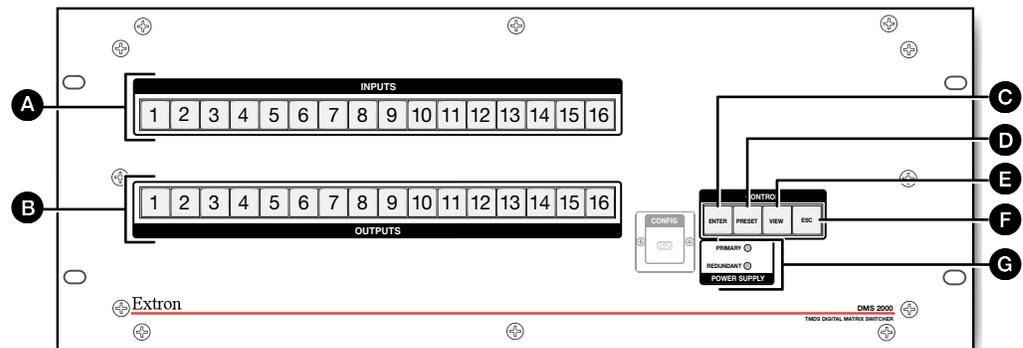
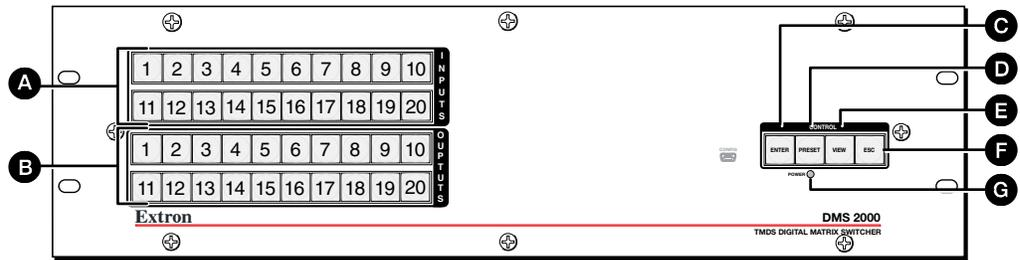
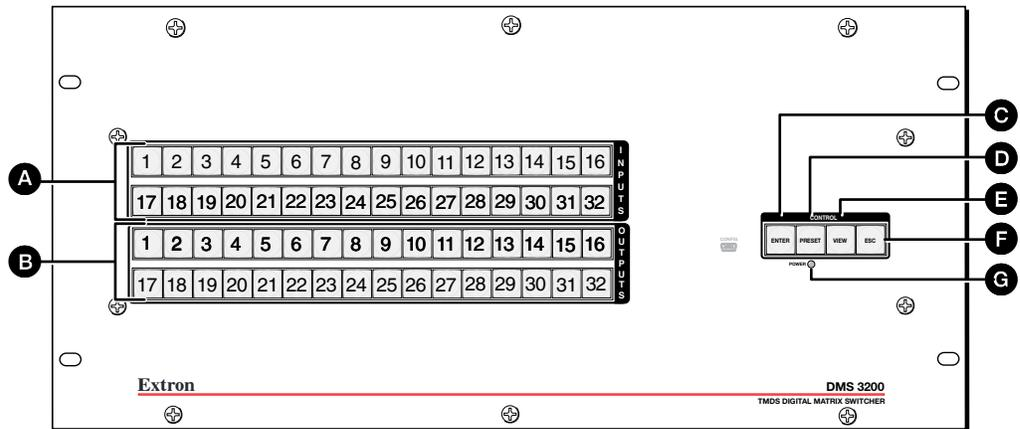
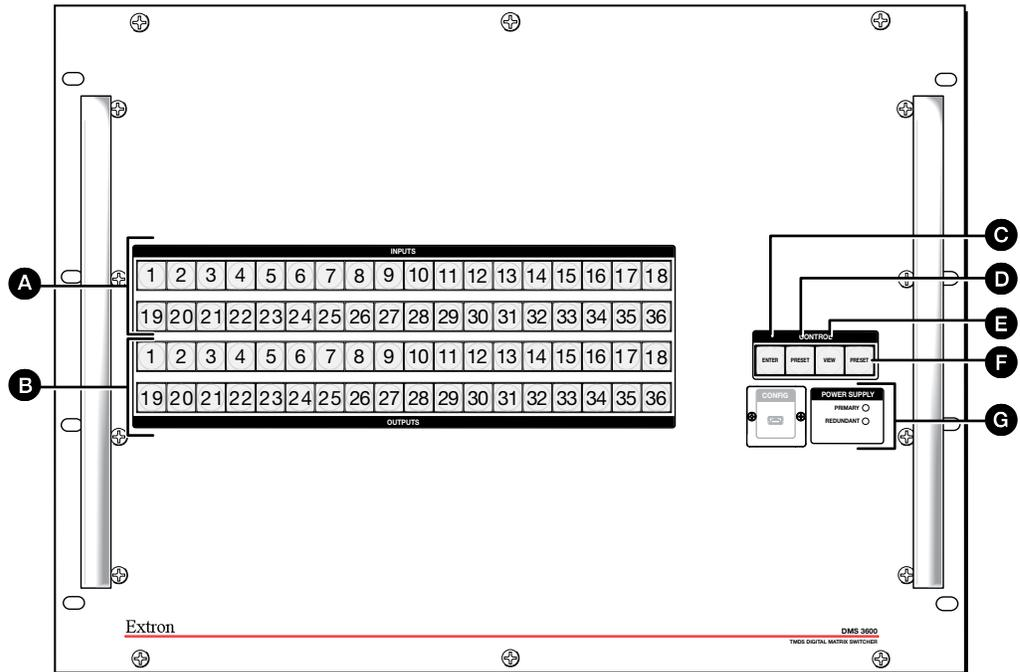

Figure 12. Front Panel, DMS 1600 Switcher
Figure 13. Front Panel, DMS 2000 Switcher
Figure 14. Front Panel, DMS 3200 Switcher
Figure 15. Front Panel, DMS 3600 Switcher
The front panel controls (see figure 12 and figure 13, figure 14, and figure 15 on the next page) are grouped into two sets. The input and output buttons are grouped on the left side of the control panel. The control buttons are grouped on the right side of the panel.
- A Input buttons** (see figure 12 on page 14 through figure 15 on page 15) — The input buttons have one primary function (□) and five secondary functions (•):
- C Enter button** (see figure 12 on page 14 through figure 15 on page 15) — The Enter button has three primary functions (☐) and three secondary functions (●):
E View button (see figure 12 on page 14 through figure 15 on page 15) — The View button has one primary function (□) and four secondary functions (●):